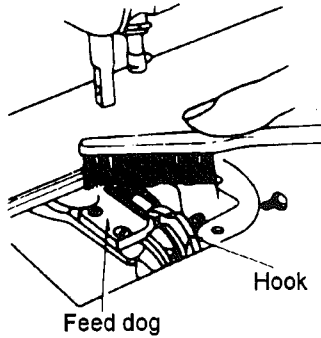
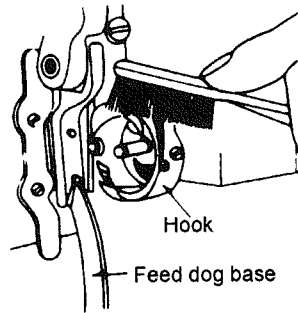
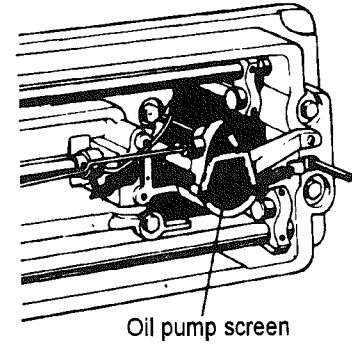

Fig.9
Fig.10
Fig.11
9. Periodical cleaning (Fig.9, Fig.10, Fig.11):